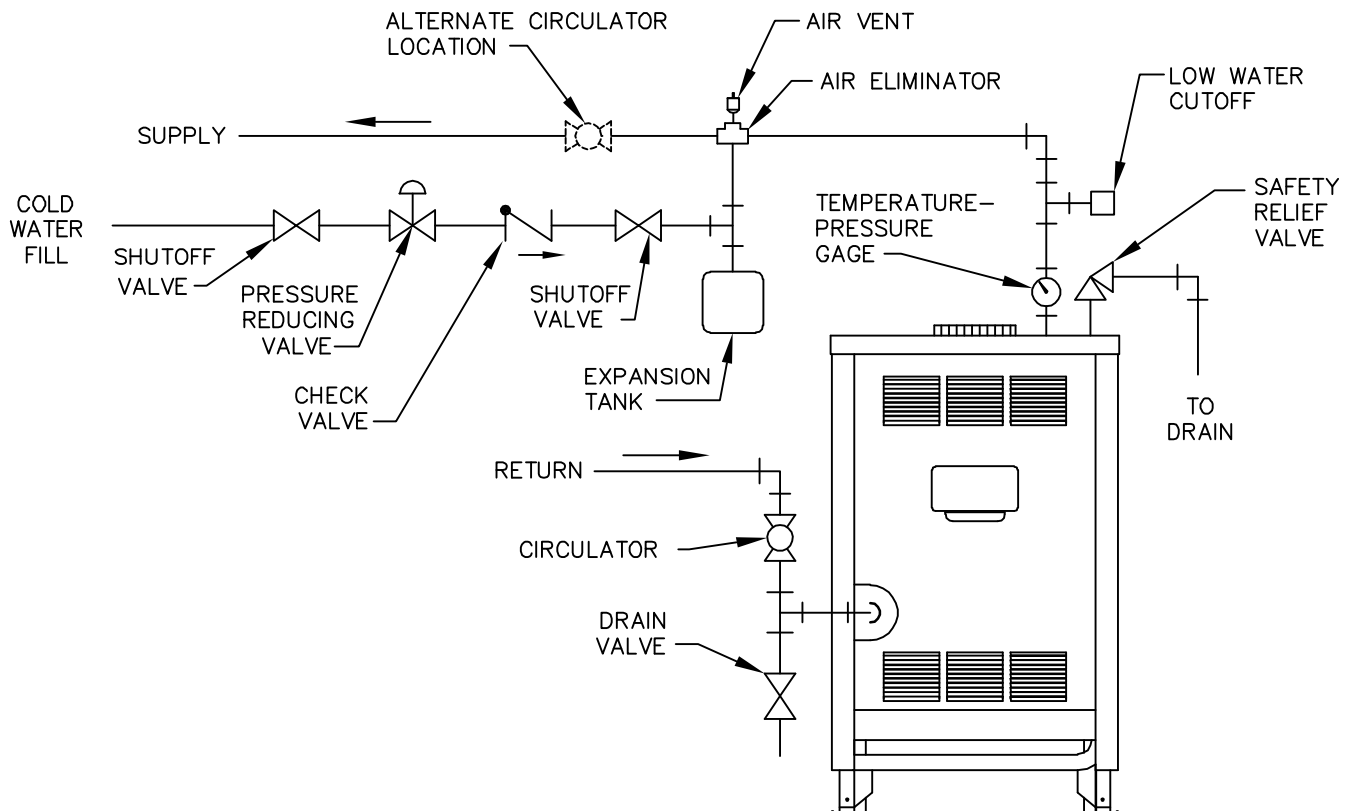

Figure 3.2: Typical Supply and Return Piping
4. **Install supply piping,** return piping and circulator. See Figure 3.2.
- a. If boiler is installed above radiation level, provide a low water cutoff device in the supply piping above boiler. See Figure 3.2.
Refer to Figure 3.2 for typical expansion tank piping.